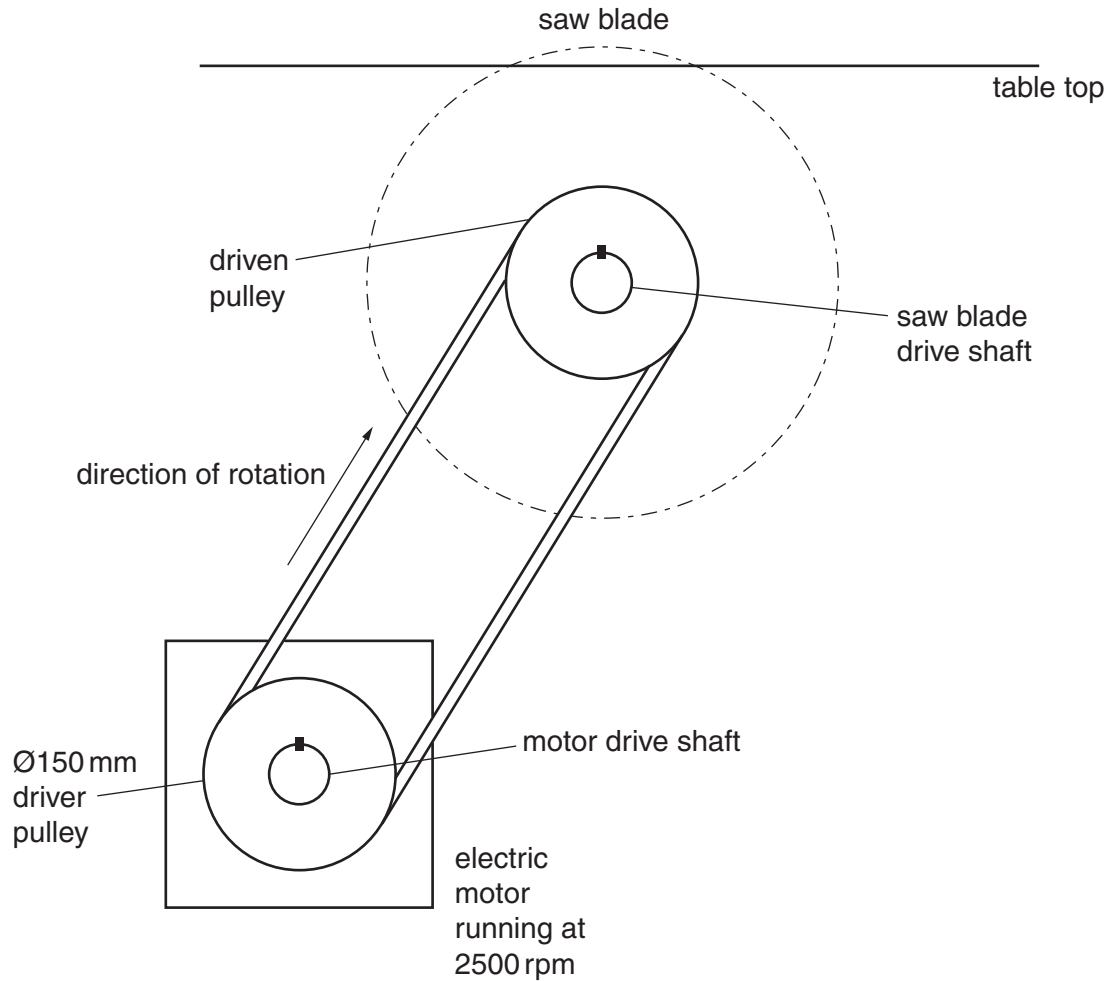

Fig. 7
- (b) Fig. 7 shows a diagram of the drive mechanism of the circular saw. The saw blade is $\text{\O}400\text{ mm}$ and must produce a force of 5 N at 2500 rpm to cut wood effectively. The efficiency of the system is 80% .